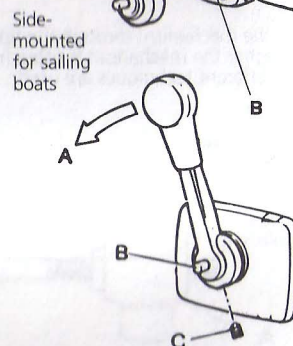

Fig. 18
- Tighten the clamp screw (C fig. 18) and make sure the lever is securely attached to the shaft.